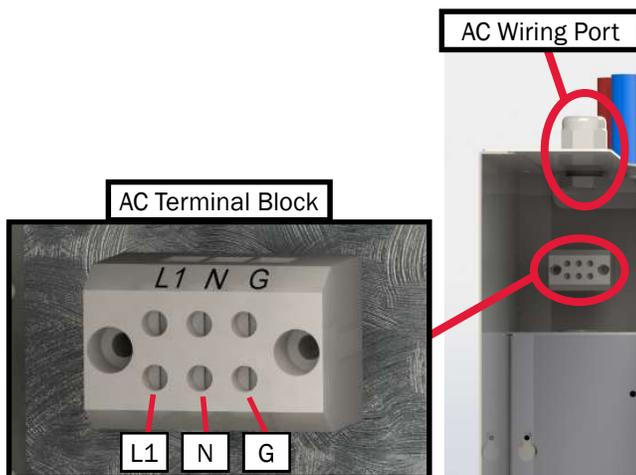

Figure 70
2. Secure the wires into their terminal by tightening the corresponding screw on the terminal block to 5 inch pounds using a slotted screw driver blade no larger than $\frac{1}{8}$ ". See Figure 70 for reference.